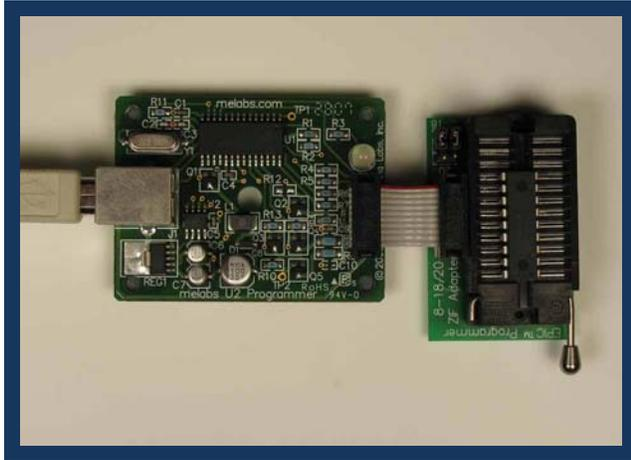

Figure 4: Programming a Microcontroller With an Adapter
- Programming the microcontroller unit (MCU) can be programmed either by removing the microcontroller from the circuit and programming it in an adapter or by programming the microcontroller while it is still in the circuit (In-Circuit Serial Programming). See Figures 4 and 5.